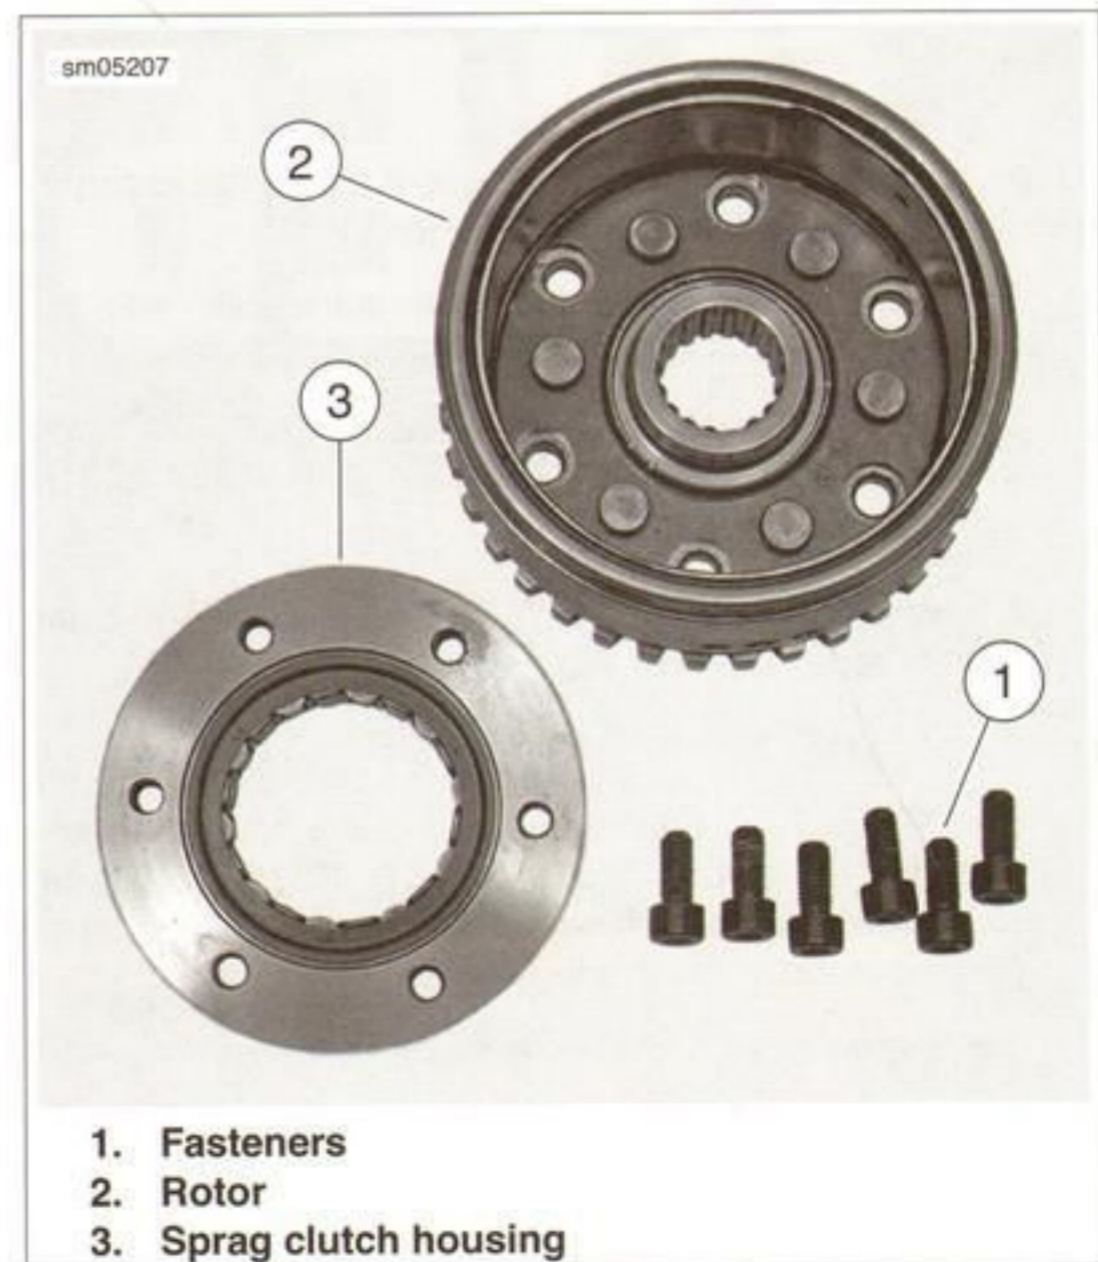

Figure 7-36. Alternator Rotor/Flywheel
- See Figure 7-36. Install the six hex key fasteners (1) through the rotor (2) into the sprag clutch housing (3).